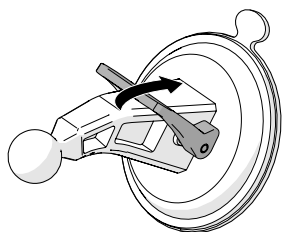

Fig. 8
3. Carefully position the suction cup on the windshield and rotate the locking arm downwards to stick securely. (Fig. 8)